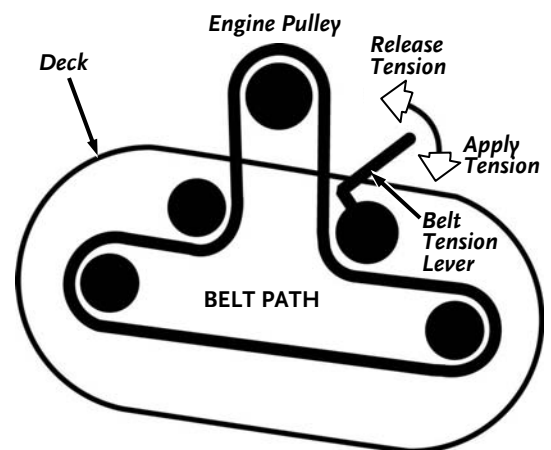

Figure 8
4. Mount the Belt on the Field and Brush Mower Engine Pulley. Ensure that the Belt is routed correctly around the other Pulleys (Figure 8).